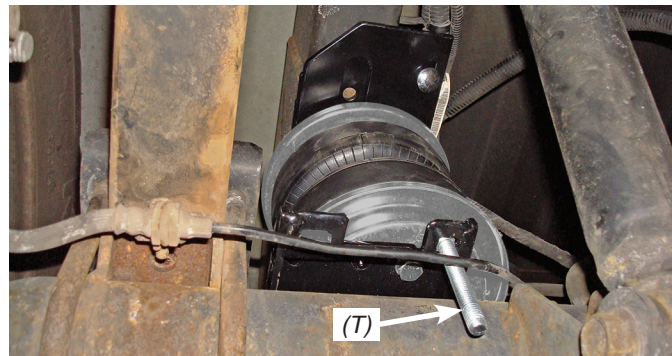

fig. 13
1. Raise the axle or lower the frame until the lower brackets touch the axle (figs. 13 & 14).